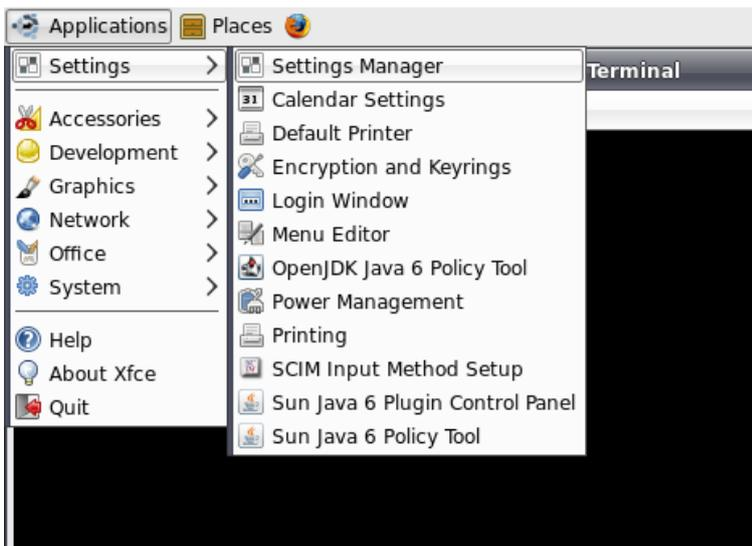

Figure 35: Calling "*Xfce Settings Manager*" from the start menu
**Adding more keyboard layouts** is possible by using "*Xfce Settings Manager*" which can be directly called from the start menu: "*Applications -> Settings -> Settings Manager*" (see Figure 35).